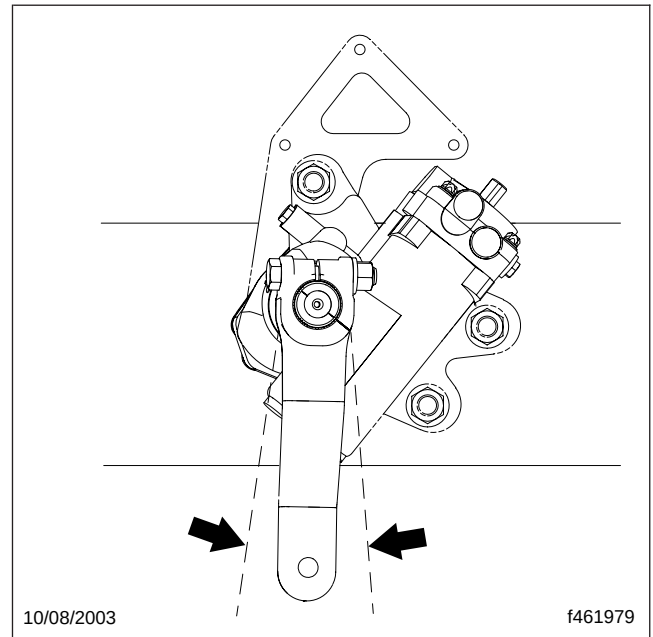

Fig. 2, Lash Check
4. From the center-of-travel position, grasp the pitman arm at the lower end of the arm and gently try to move the arm back and forth. See Fig. 2. If the pitman arm is loose or lash (free play) is detected, the sector shaft is out of adjustment.